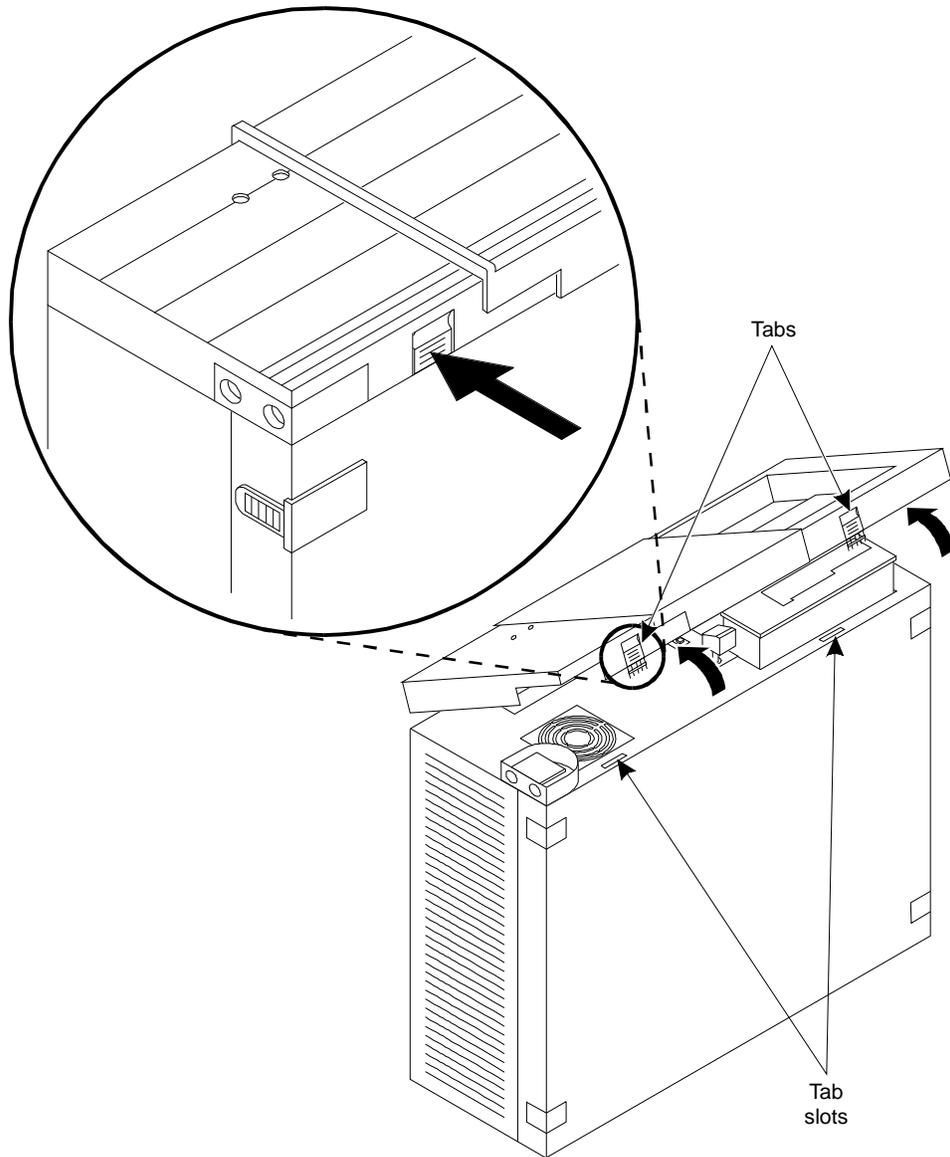

Figure 5-1. Removing the MAP/5 Front Panel
You must remove the front panel before removing the top cover for access to the inside of the system. The front panel covers the front of the unit and has a slide panel attached to it which can cover the disk drives. This procedure assumes you have already shutdown the system. Refer to Figure 5-1 and follow the steps below:
3. Push inward and upward on the two front panel latches to release the bottom edge of the front panel. See Figure 5-1.